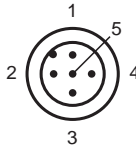

Figure 4.5: Serial interface connection layout
1. Plug the 8-pin M12 socket into the connector provided for this purpose on the back of the housing. See view Figure 4.5 on page 13 for the connector assignment.